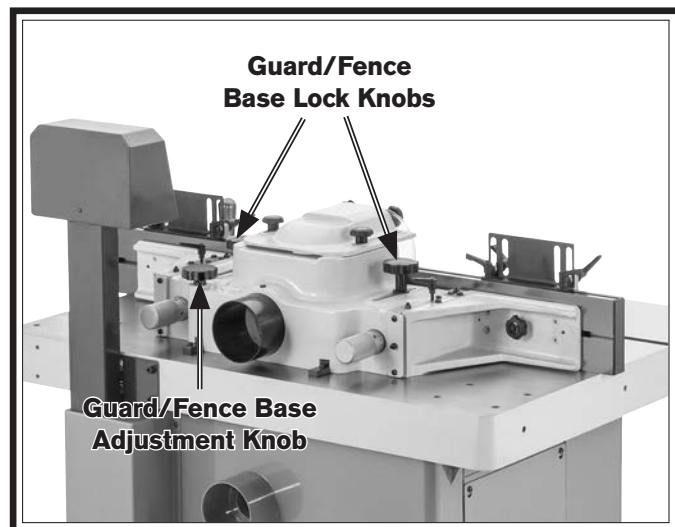

Figure 45. Guard/fence base control components.
1. Loosen guard/fence base lock knobs (see Figure 45).
2. Turn guard/fence base adjustment knob (see Figure 45) until assembly is set to desired position.